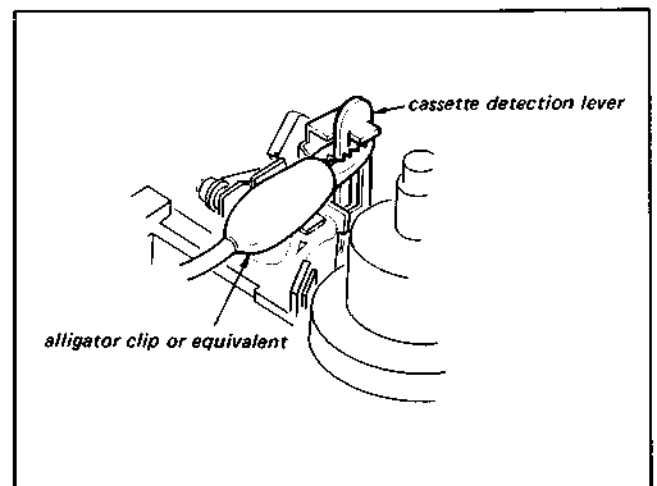
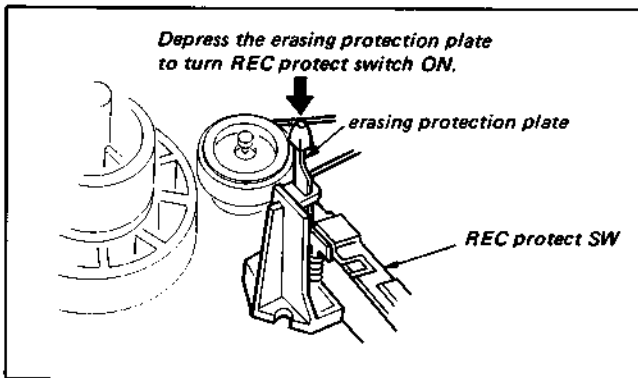

Fig. 1-9.
Fig. 1-10.
- Capture the cassette detection lever with an alligator clip, or an equivalent, as shown in Fig. 1-9, to place the cassette detection switch, mounted on the chassis, into the ON state. Then a desired state of operation can be set up by depressing the function button for the desired state. But note that the PLAY function button must be depressed after performing the procedures for stopping the slack sensor operation described in Section 1-4.
- Capture the cassette detection lever with an alligator clip as shown in Fig. 1-9, manually depress the erasing protection plate as shown in Fig. 1-10, and perform the procedure in Section 1-4, "Stopping Slack Sensor Operation". Then depress the RECORD button or the AUDIO DUB button.